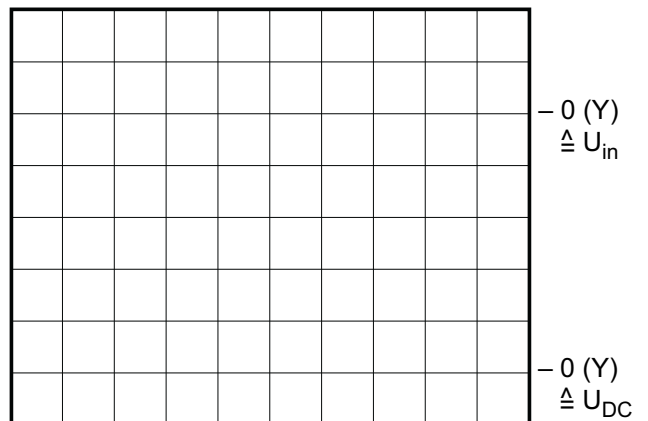

Fig. 1.4.2.3
- Plot the curve of the input voltage U_{in} and of the DC voltage U_{DC} , which results using the smoothing capacitor 10 μ F on the grid of Fig. 1.4.2.3.